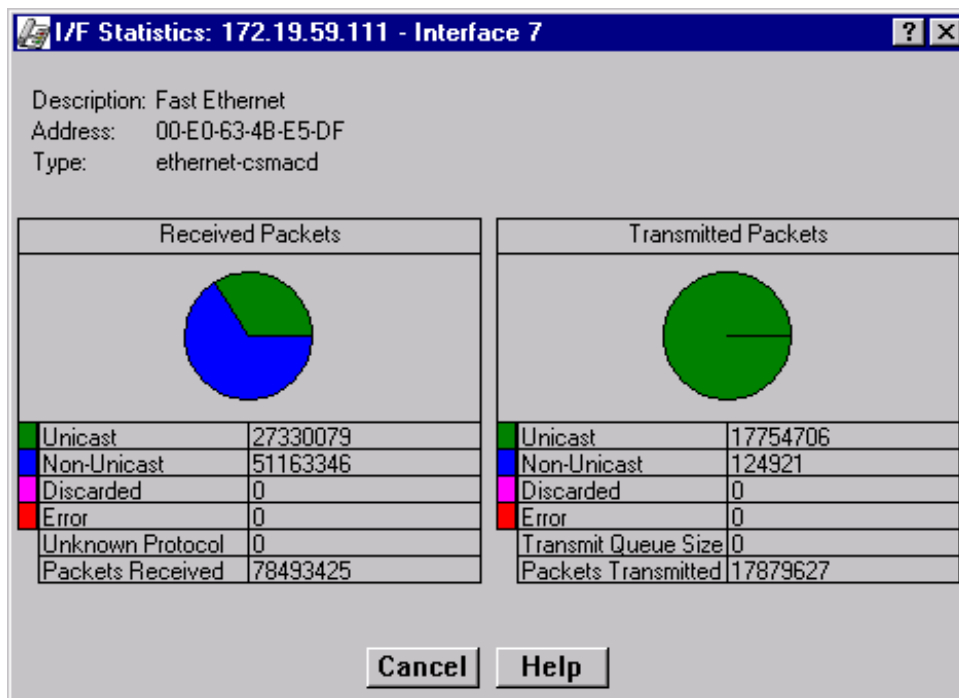

Figure 3-3. The Interface Statistics Window
2. **For RMON statistics** (where available), click to select **Statistics**, and release. The RMON Statistics (Figure 3-1) or MIB-II I/F Statistics (Figure 3-3) window, as appropriate, will appear.
For MIB-II interface statistics, click to select **I/F Statistics**, and release. The MIB-II I/F Statistics window (Figure 3-3) will appear.
The interface I/F Statistics window (Figure 3-3) provides MIB-II interface statistical information — including counts for both transmit and receive packets, and error and buffering information — for the front panel interfaces on the SmartSwitch 6000 or Matrix E7 series chassis. Color-coded pie charts in the middle of the window let you graphically view statistics for Unicast, Non-Unicast, Discarded and Error packets.